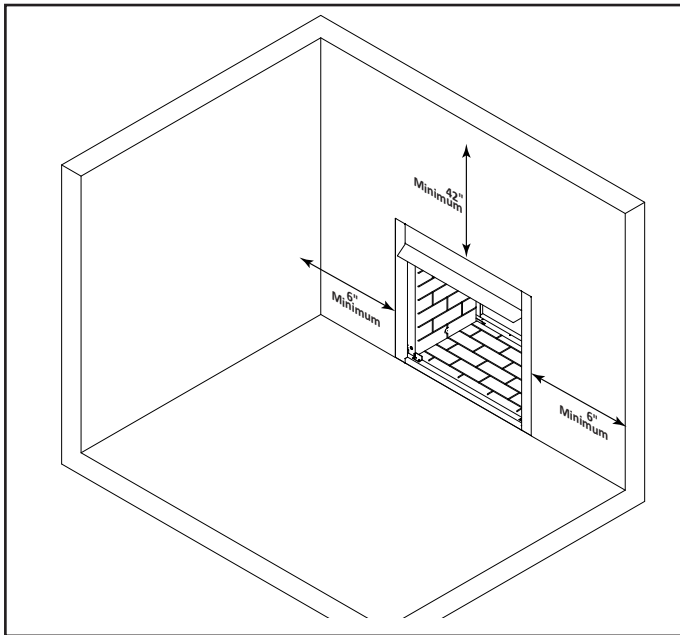

Figure 6.1 Clearance and Height Requirements
Ensure that minimum clearances shown in Figures 6.1 through 6.4 are maintained. Left and right clearances are determined when facing the front of the firebox.
1. **Sidewall clearances:** The clearance from the inside of the appliance to any combustible wall should not be less than 6". See Figure 6.1.
2. **Ceiling clearance:** The ceiling must be at least 42" from the top of the firebox opening. See Figure 6.1.